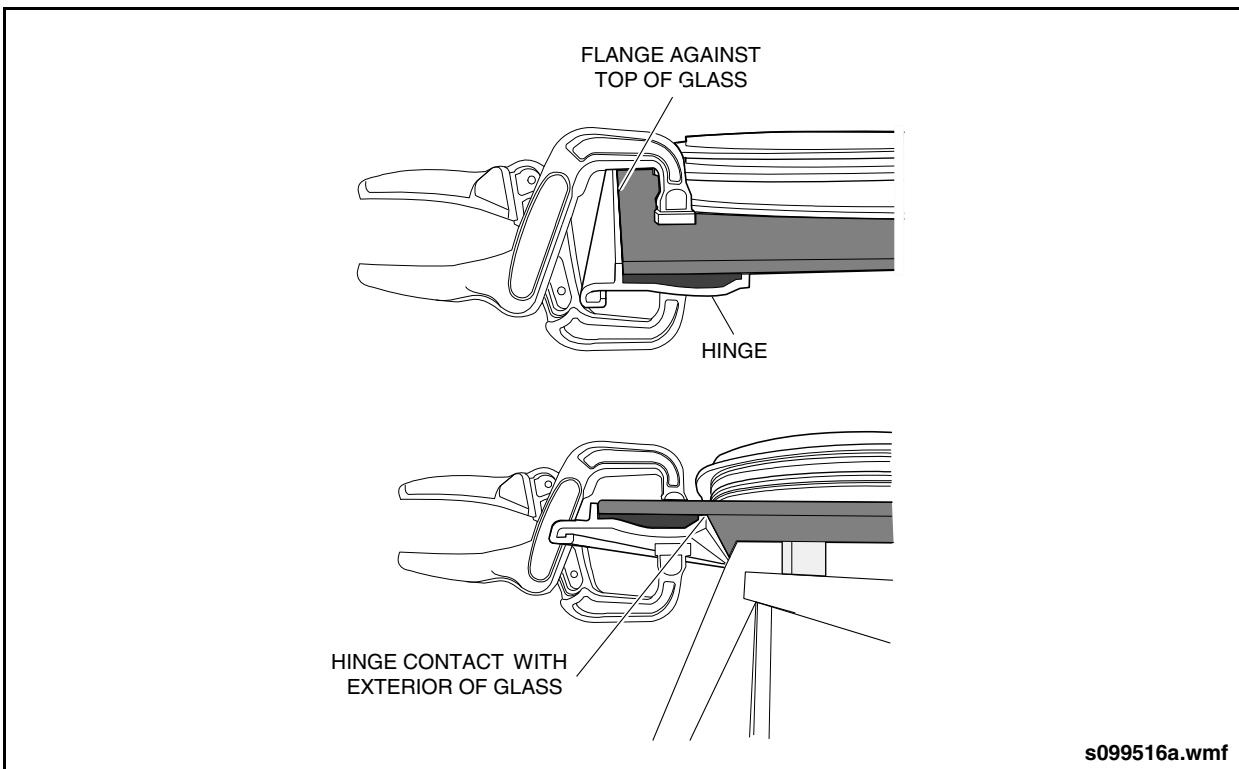

Fig. 14-20: Flange & Hinge to Glass Contact
6. Ensure the hinge is positioned properly. The top flange of the hinge should be positioned against the top of the glass. The maximum allowable gap is 1/32". The bottom of the male hinge should correctly contact the exterior surface of the glass. The ends of the hinge extrusion are to be flush with the edges of the glass. See "Fig. 14-20: Flange & Hinge to Glass Contact" on page 25.